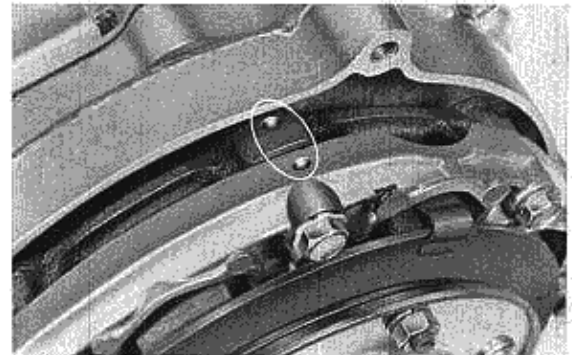

Fig. 5-4
- When installing the pressure disk to the clutch disk, align the punch marks (Fig. 5-4).